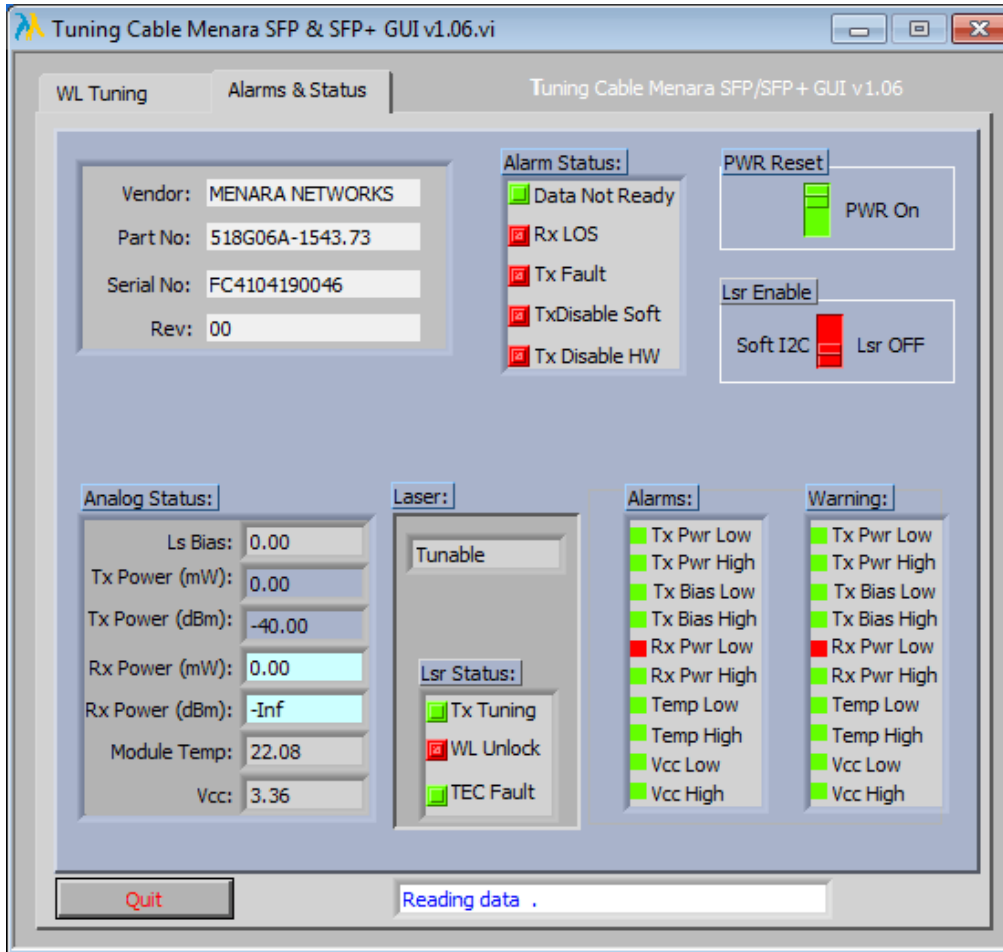

Figure 3: SFP Alarms & Status
1. Select the Alarms & Status Tab as show in Figure 3 below.